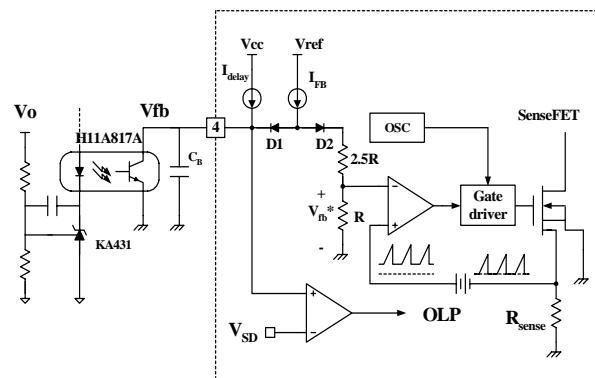

Figure 5. Pulse width modulation (PWM) circuit
2. Feedback Control : FSDM0565RB employs current mode control, as shown in Figure 5. An opto-coupler (such as the H11A817A) and shunt regulator (such as the KA431) are typically used to implement the feedback network. Comparing the feedback voltage with the voltage across the R_{sense} resistor plus an offset voltage makes it possible to control the switching duty cycle. When the reference pin voltage of the KA431 exceeds the internal reference voltage of 2.5V, the H11A817A LED current increases, thus pulling down the feedback voltage and reducing the duty cycle. This event typically happens when the input voltage is increased or the output load is decreased.
2.1 Pulse-by-pulse current limit: Because current mode control is employed, the peak current through the Sense FET is limited by the inverting input of PWM comparator (Vfb*) as shown in Figure 5. Assuming that the 0.9mA current source flows only through the internal resistor (2.5R + R = 2.8 kΩ), the cathode voltage of diode D2 is about 2.5V. Since D1 is blocked when the feedback voltage (Vfb) exceeds 2.5V, the maximum voltage of the cathode of D2 is clamped at this voltage, thus clamping Vfb*. Therefore, the peak value of the current through the Sense FET is limited.